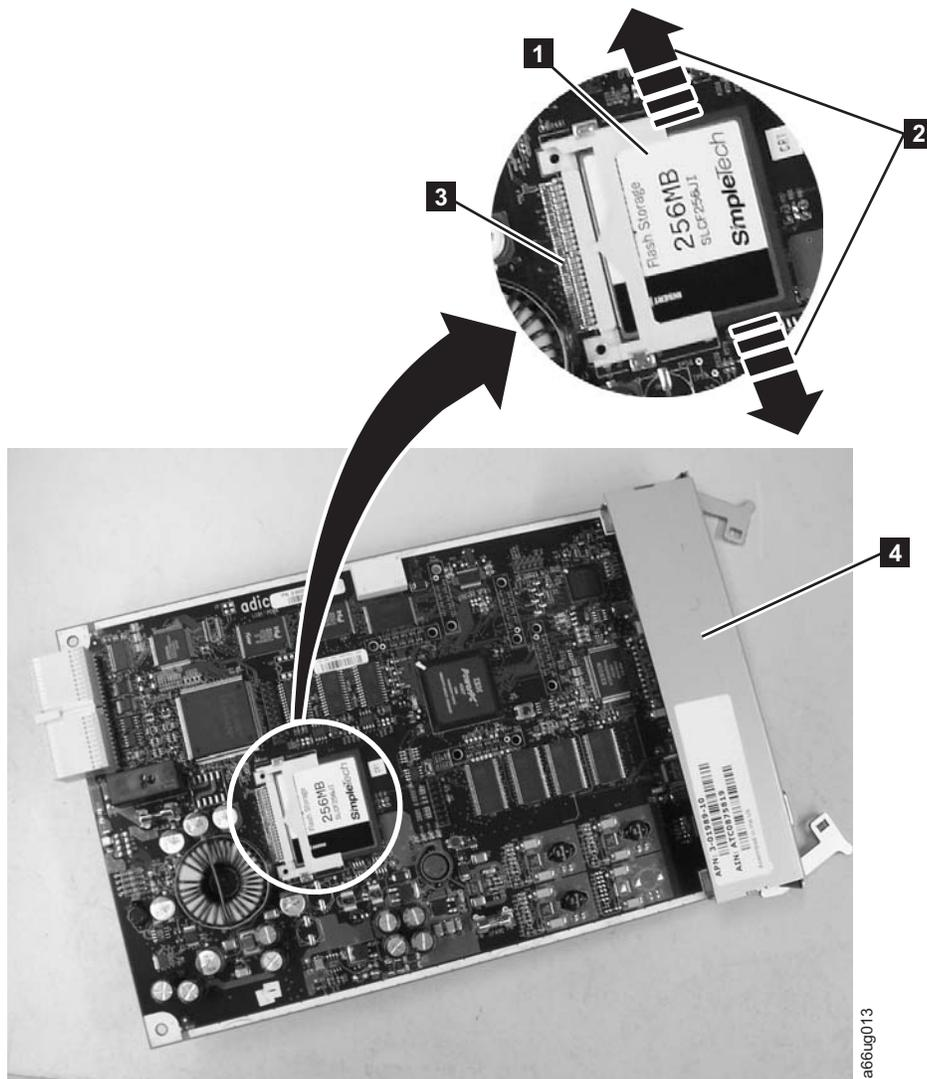

Figure 8-30. Removing the Compact Flash Card from the Library Control Blade
3. Locate the compact flash card component on the LCB board ( **1** in Figure 8-30 on page 8-33).
4. Without touching any other components on the LCB firmware board, carefully grasp the compact flash card and wiggle it using a gentle, side-to-side motion ( **2** in Figure 8-30 on page 8-33) until the pins on the compact flash card become disconnected from the pins on the LCB board ( **3** in Figure 8-30 on page 8-33). Then, slowly slide the compact flash card out of the guide slots.
(See the area enclosed in the white circle in Figure 8-30 on page 8-33 for location).
2. Transfer the compact flash card to the new LCB board with the label up, and pins aligned. Without touching any other components on the LCB board, carefully grasp the compact flash card, and slowly slide it into the guide slots. Continue to push the compact flash card into the guide slots until the pins start to connect. Then hold the LCB board metal connector shield ( **4** in Figure 8-30 on page 8-33) with one hand and push the compact flash card into the connector with your other hand. The compact flash card should be firmly seated against the connector ( **3** in Figure 8-30 on page 8-33).